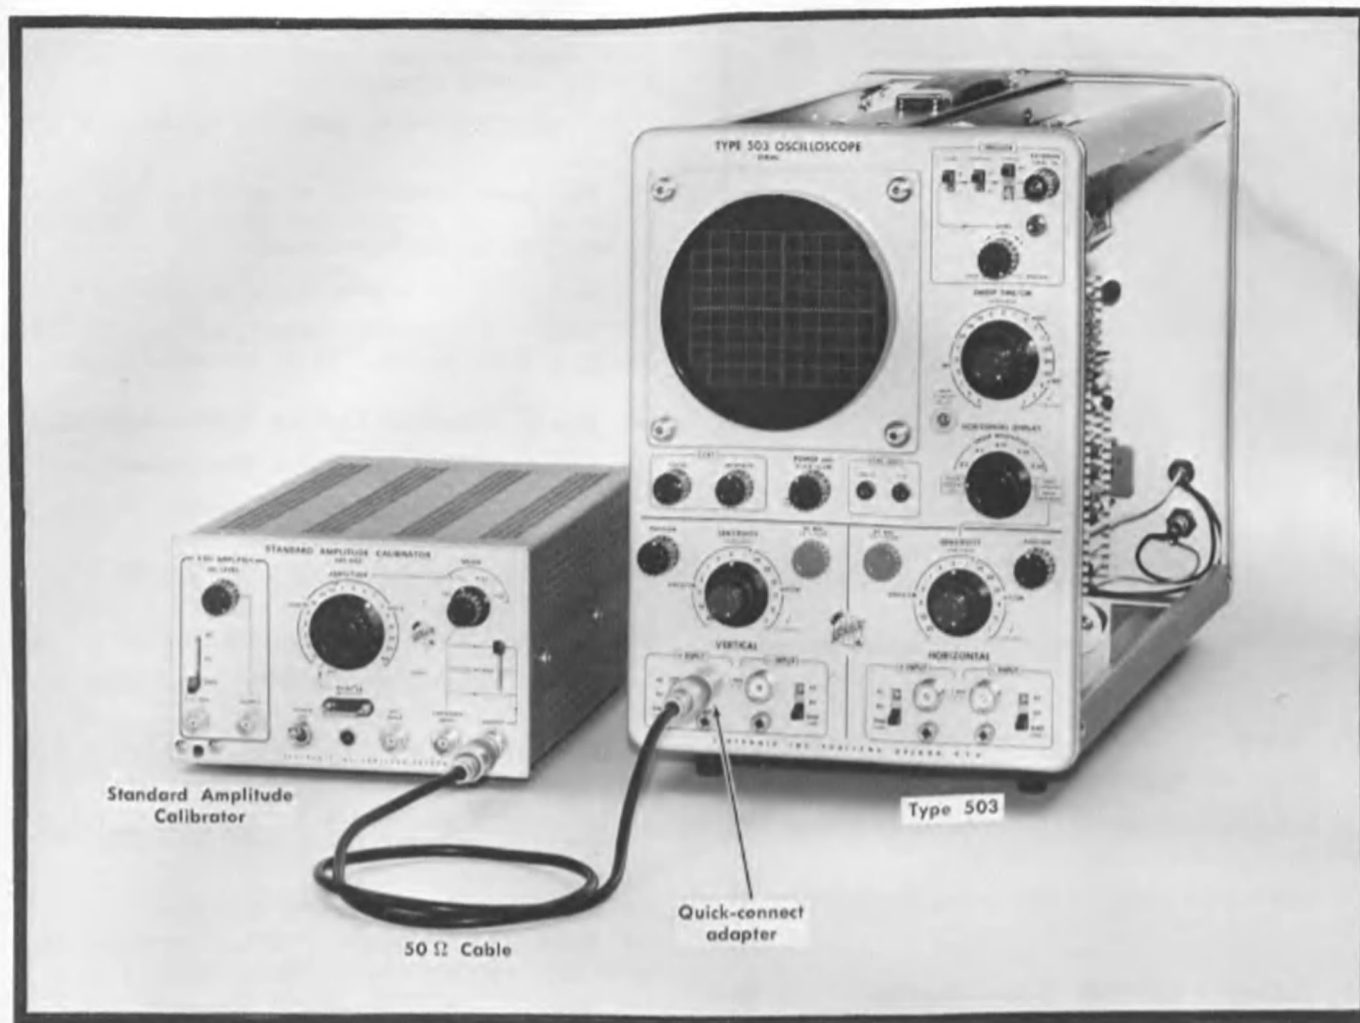

Fig. 6-11. Test setup for Vertical and Horizontal amplifier gain adjustments.
①
- The test setup is shown in Fig. 6-11.
- Connect the Standard Amplitude Calibrator output through a BNC to UHF adapter, a 50 Ω cable and quick-connect adapter (item 15 of Recommended Equipment) to the Type 503 VERTICAL +INPUT connector, and change the VERTICAL +INPUT switch to DC.